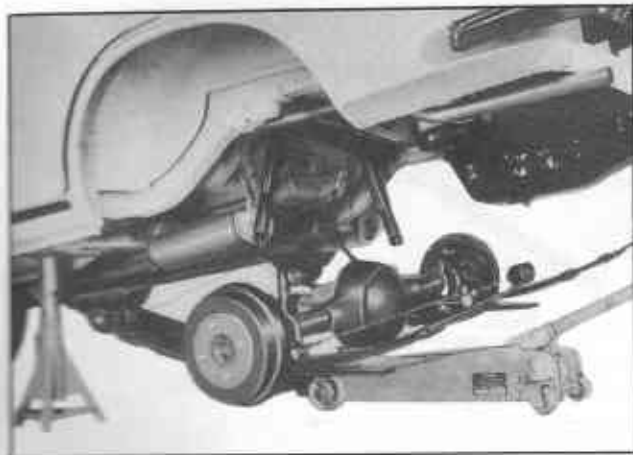

Fig. RA-27 Removal of rear axle
11. Remove the 'U' bolt lock nuts. Lower the jack and withdraw the rear axle assembly as shown in Figure RA-27.